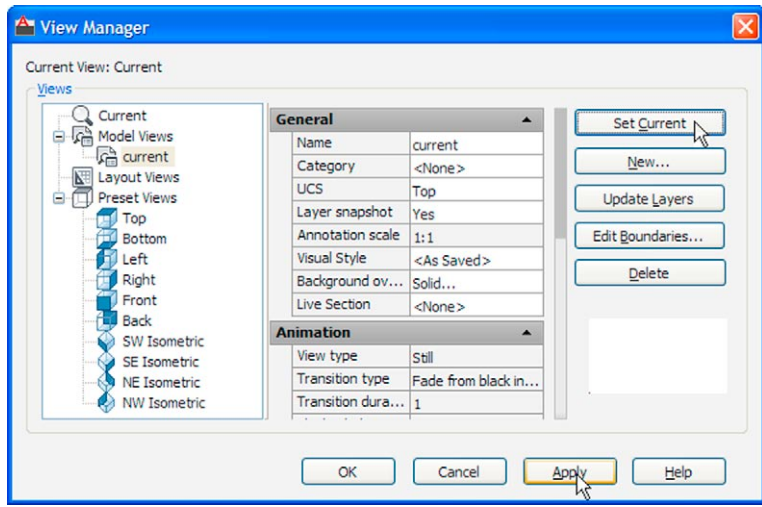

Fig. 15.18 The View Manager dialog
3. In the **Background** dialog click in the **Color** field. The **Select Color** dialog appears (Fig. 15.18).
6. The **View Manager** dialog reappears. *Click* the **Set Current** button, followed by a *click* on the dialog's **OK** button (Fig. 15.18).